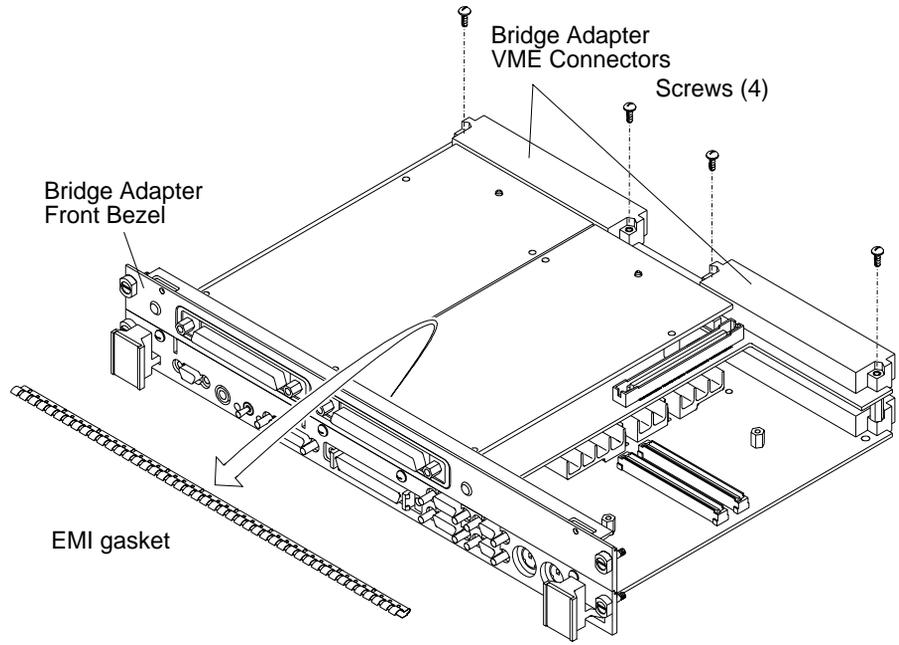

Figure 2-9 Removing Bridge Adapter Screws and EMI Gasket
- 9 **Remove** the four screws from bridge adapter VME connectors, as shown in Figure 2-9.
- 10 Using a small screwdriver or razor, remove the copper EMI gasket on the front bezel of the bridge adapter, as shown in Figure 2-9.